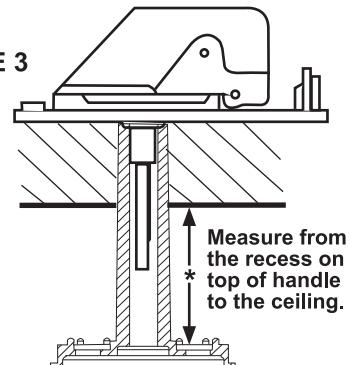
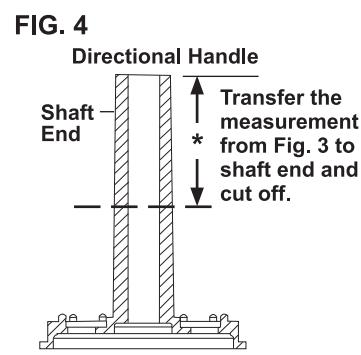

FIGURE 3
FIG. 4
TIP: Pointer on directional handle should point toward back of coach if properly installed.) Make sure directional handle is snug against bottom of baseplate. Measure distance between the bottom of the recess on the handle to the ceiling. See figure 3. Pull handle back down and transfer this dimension to the shaft end of the directional handle. Mark it and cut it off here, fig. 4.
* Transfer the measurement from Fig. 3 to shaft end and cut off.